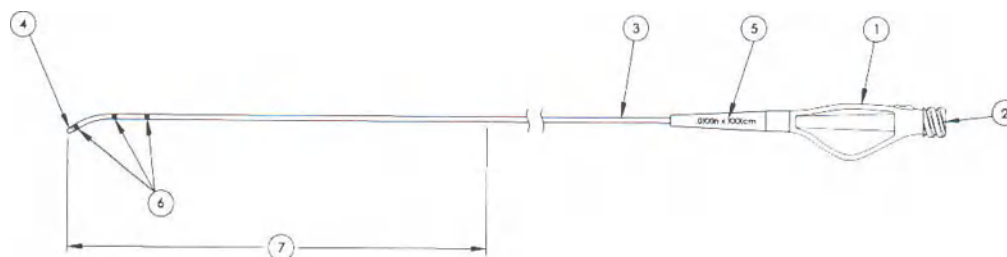

Figure 1. TrailBlazer™ angled support catheter
As shown in Figure 1, the lumen begins (2) at the proximal end of the manifold (1) and continues through the catheter (3) to the angled distal tip (4). The lumen is used to pass the catheter over a guidewire. The guidewire-compatible diameter and working length are marked on the strain relief (5). The distal catheter shaft has three radiopaque markers (6) that aid in positioning the catheter. The first 40 cm at the distal end of the catheter (7) are coated with a hydrophilic coating.